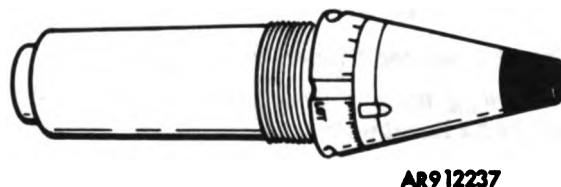

Figure 211.21. Proximity (VT) fuze, M728.
g. Fuze, Proximity (VT), M728 (fig. 211.21). The M728 fuze is used with the deep cavity projectiles and is essentially a self-powered radio and transmitting unit. The fuze can be set from 5 to 100 seconds. The setting on the time ring determines at what time along the trajectory the fuze will become activated. It also has an impact element that is armed three seconds after firing and will function either on proximity action or impact action, whichever occurs first. The nose of this fuze has been painted (black) to reduce static electricity.